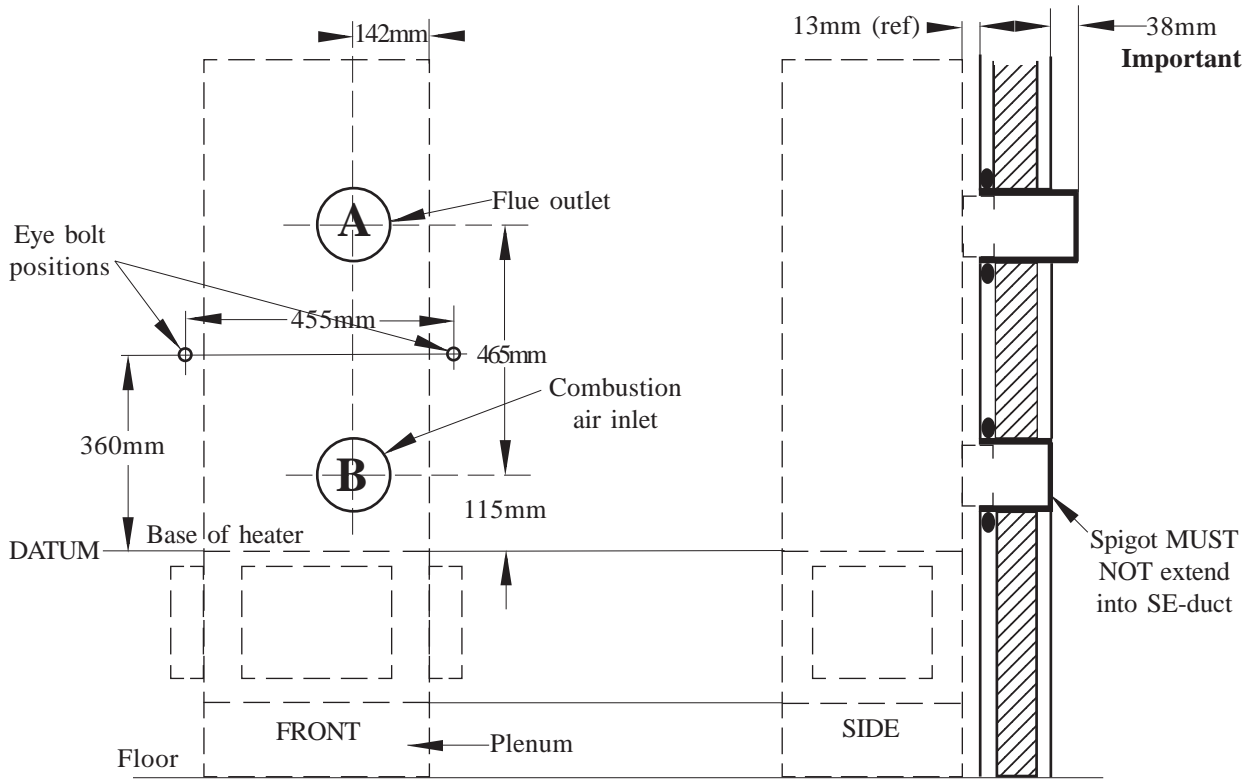

Fig. 2
5.2.3 **Referring to Fig. 2, NOTE THE DATUM POINTS INDICATED before proceeding.**
5.2.5 The holes in the SE-duct **MUST** correspond with the positions 'A' and 'B' as shown in Fig. 2. Measure the thickness of the SE-duct wall and cut pieces of 125mm (5 in) inside diameter tube of a suitable non combustible material to length, and cement in place such that the upper tubing projects 38mm (1.5 in) into the SE-duct, and the lower tubing is flush with the inside face of the duct. **These positions are critical.**
5.2.7 Referring to Fig. 2, drill 2 x 9mm diameter holes and fix the eye-bolts using the masonry plugs provided in the installation kit.
- 5.4.3 Position the rope ring seals on the heater spigots as shown in Fig. 2, and place the heater onto the base duct to engage the spigots into the SE-duct holes.